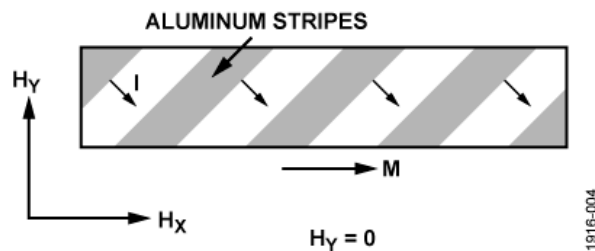

Figure 4. Barber Pole Effect in a Permalloy Strip
A common method used to improve both the linearity and polar insensitivity of the permalloy strip is to add aluminum stripes angled at 45° to the strip axis called barber poles, as shown in Figure 4. Any current flowing between barber poles will take the shortest path—the perpendicular path, and the angle between the current flow vector (I) and magnetization vector (M) shifts by 45° .